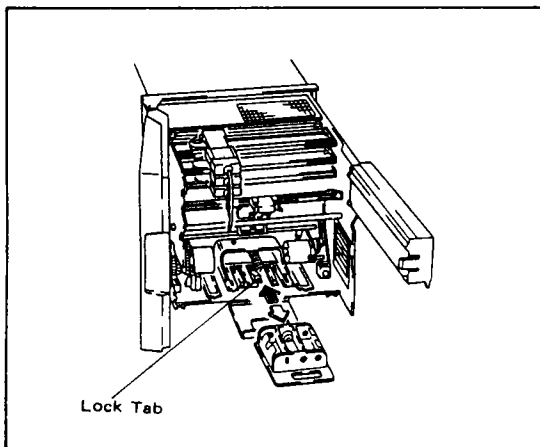

Figure 5-20.
- (7) Insert the battery cartridge back into the unit confirming that the lock tab is in the locked position. (See Figure 5-20.) Confirm that "BAT" display does not light.